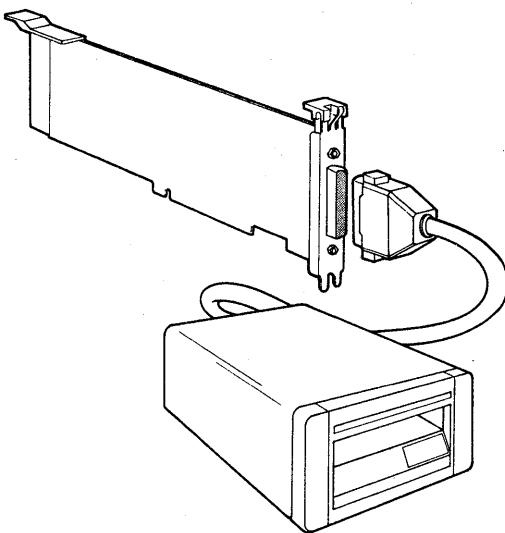

Figure 24: Cabling the Tape Drive and Controller Card
19. Connect the shielded round cable of the tape drive to the endplate of its controller card, as shown in Figure 24: